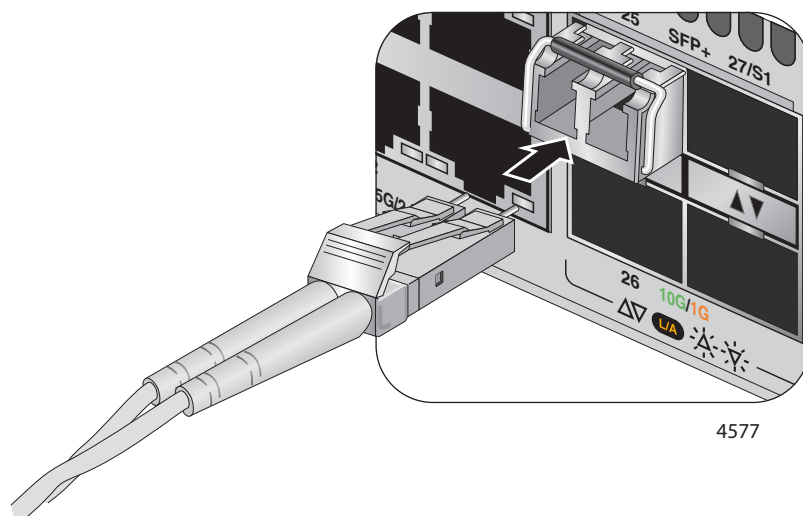

Figure 55. Connecting a Fiber Optic Cable to an SFP or SFP+ Transceiver
6. Connect the fiber optic cable to the transceiver, as shown in Figure 55. The connector on the cable must fit snugly into the port, and the tab must lock the connector into place.